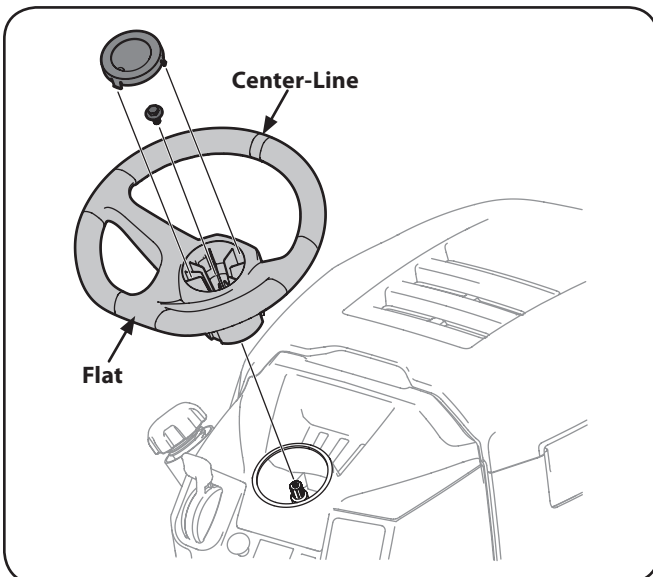

Figure 3-8
1. With the wheels of the tractor pointing straight forward, align the steering wheel by using the center-line on the front of the steering wheel pointing straight ahead and the flat section of the steering wheel facing toward the seat, place the steering wheel over the steering shaft. See Figure 3-8.